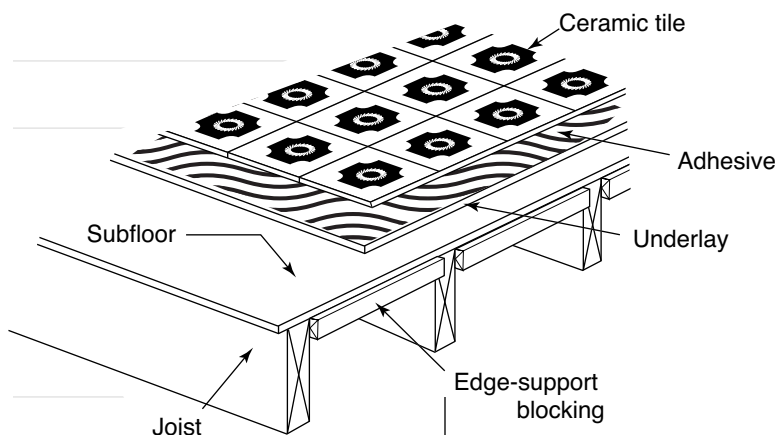

FIGURE 31
- ◆ Your use of a panel-type underlay will depend on whether you use a mortar bed. If the ceramic tiles are installed with adhesive (thin-set method), then underlay as specified in the NBC (see Figure 31). If you use a mortar bed, underlay is not required, although it will help to stiffen the floor and reduce deflection.